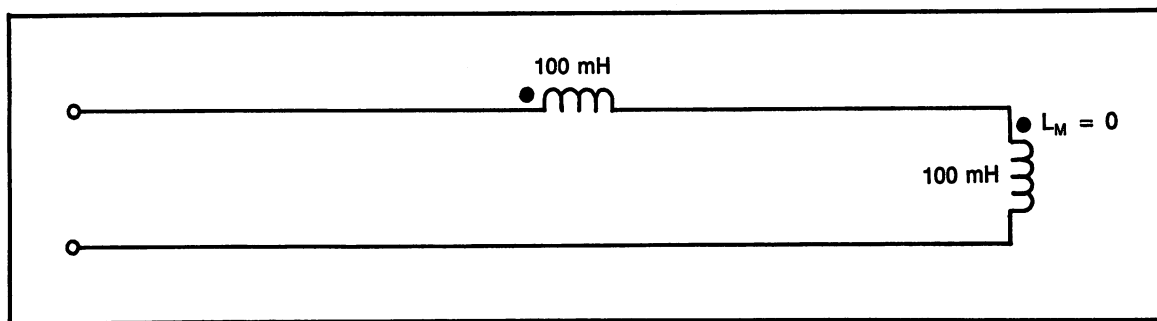

Fig. 10-6. Problem 6.
- (1) Series circuit; 500 μH , 700 μH
- (2) Series circuit; 10 mH, 50 mH, 30 mH
- (3) Series circuit; 100 mH, 0.2 H, 0.15 H, $L_M = 10 \text{ mH}$ aiding
- (4) Series circuit; 1 H, 1.5 H, 1200 mH, $L_M = 25 \text{ mH}$ opposing
- (5) Parallel circuit; 100 mH, 200 mH
- (6) Figure 10-6